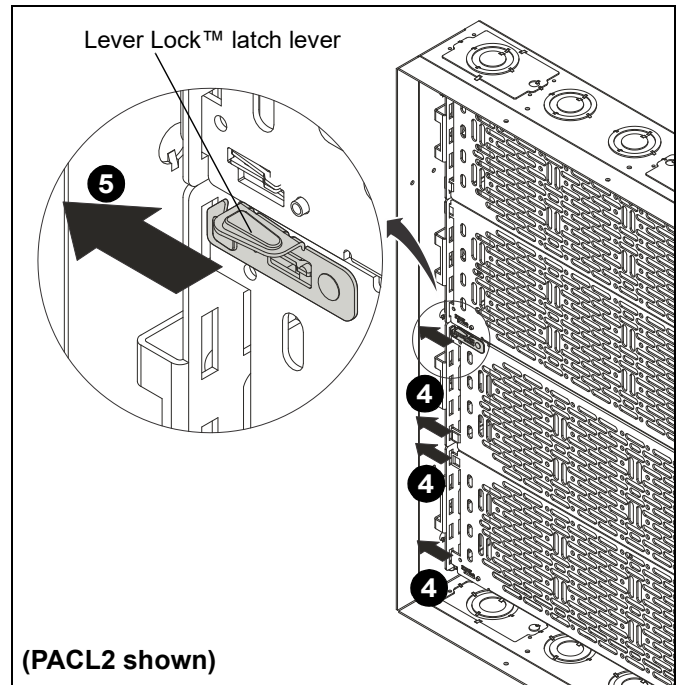

Figure 3
5. Slide Lever Lock™ backplanes (A) into adapter (B) slots on opposite side, making sure they "click" into place. (See Figure 3)